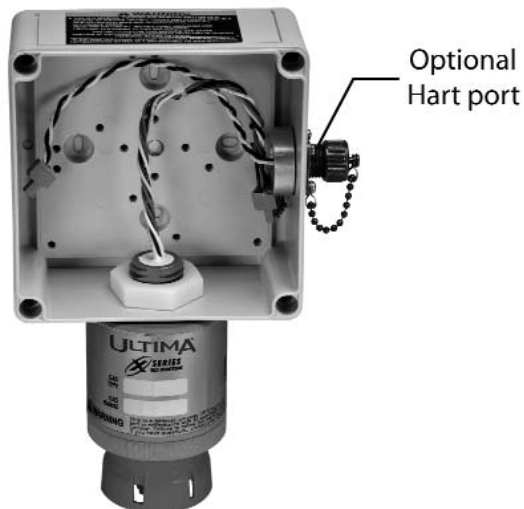

Figure 1
1. Remove the lid and drill the enclosure for power, signal and optional relay cable entry (FIGURE 1). Care must be taken if non-recommended cable entry locations are required to prevent mounting interference per instructions on the enclosed Installation Outline Drawing.